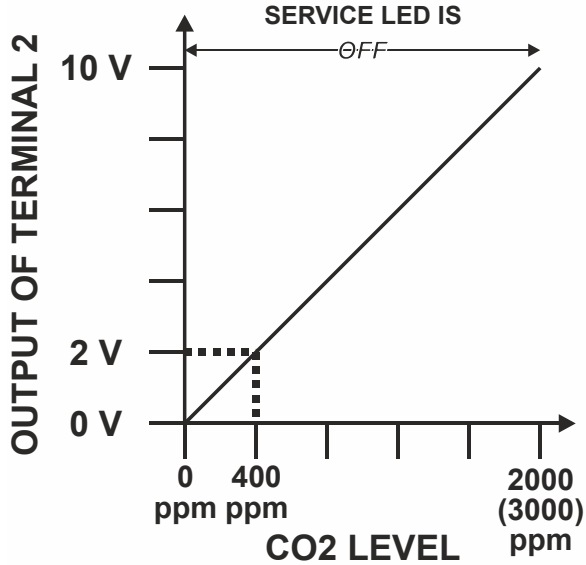

Fig. 13. Sensor output mode (analog)
- To select the "Sensor Output" mode (analog), set the configuration potentiometer to "OFF" (default setting) (see Fig. 12). See also Fig. 13.